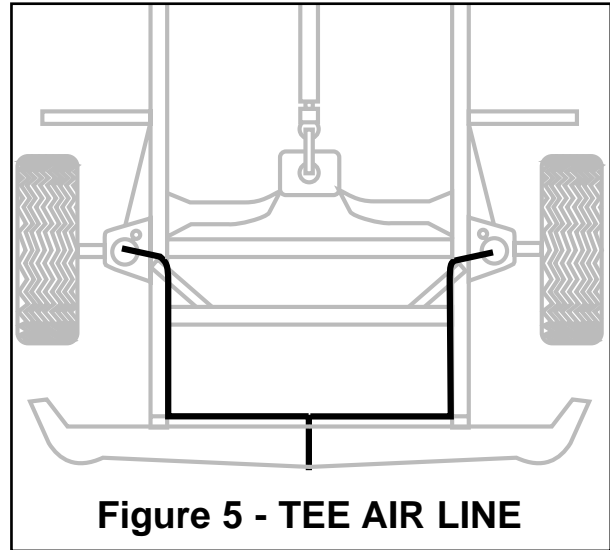

Figure 5 - TEE AIR LINE
- A. Find desired tee location on the frame rail or radiator core support bracket (Figure 5).